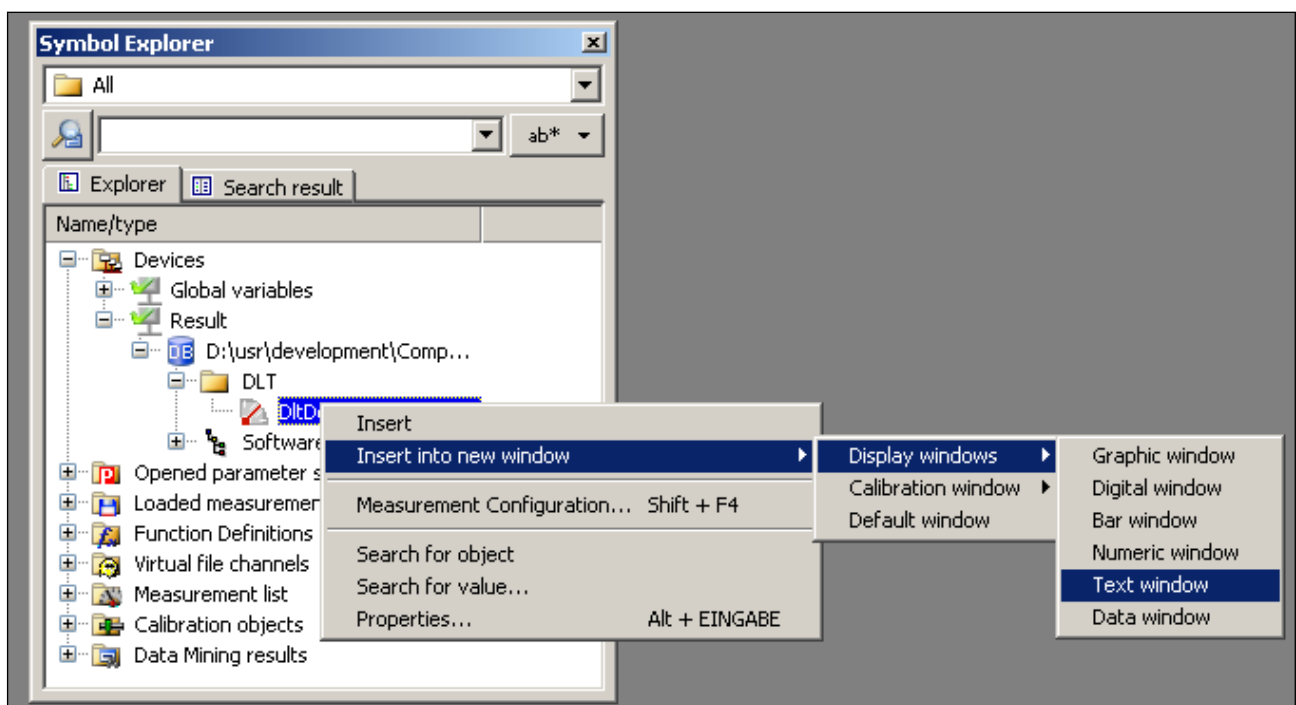

Figure 4-7 Select the DLT variable for measurement in a text window
- > DLT Reporting of DET Errors: Select the variable Dlt\_DetErrorCode and add it to a text window as shown in Figure 4-7.